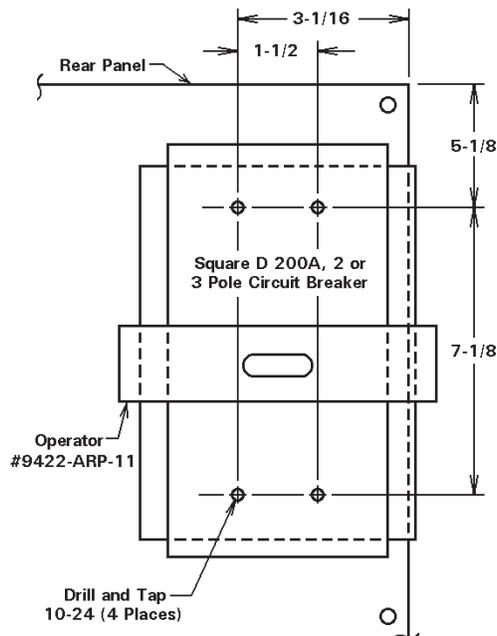

Figure 9
2. Drill and tap the Rear Panel as shown in Figure 9.